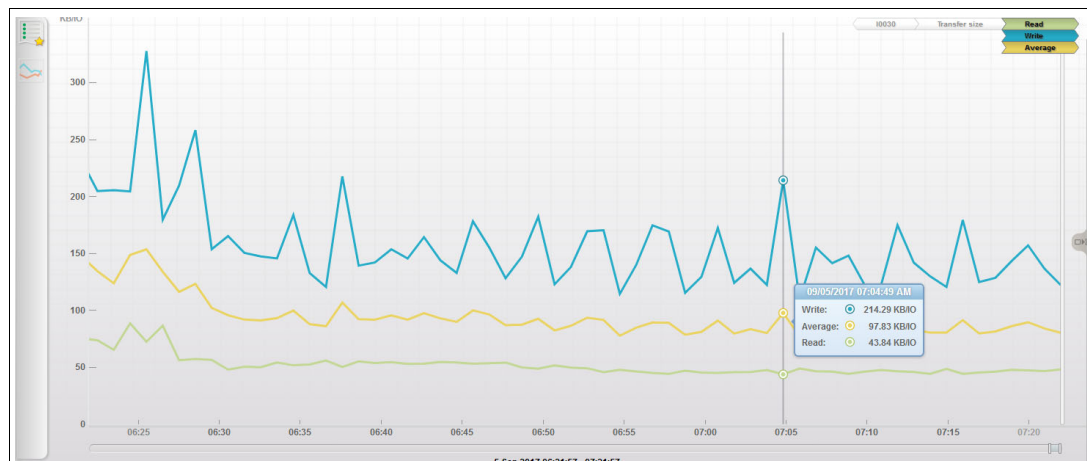

Figure 11-141 Fibre Channel Port performance graph
4. Draw the graph. Figure 11-141 shows the completed graph.